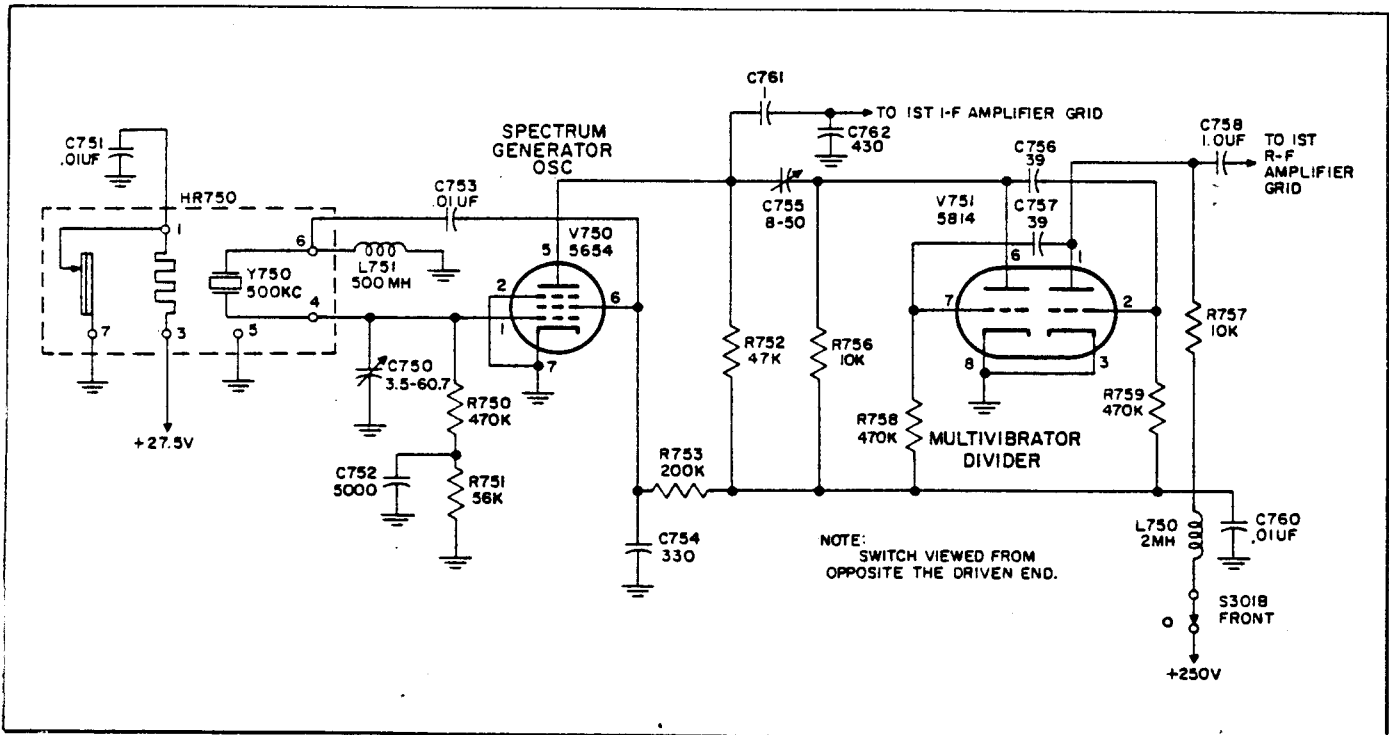

Figure 4-16. Spectrum Generator Oscillator, Simplified Schematic Diagram
**4-26. SPECTRUM GENERATOR OSCILLATOR.** (See figure 4-16.) The function of the spectrum generator oscillator is to provide a 500-kilocycle signal for use in frequency calibration of the receiver. A 5654 tube, V750, is employed in a modified, electron-coupled oscillator. Feedback is accomplished through capacitor C753. Capacitor C750 is nominally set at 32 micromicrofarads for the initial alignment, and may be varied later to set the oscillator frequency to exactly 500 kilocycles. Provision is made for grid voltage metering, accomplished by resistor R751, in series with the grid-loading resistor, R750. Capacitor C752 is the voltmeter bypass. Stability of the
**4-27. MULTIVIBRATOR DIVIDER.** (See figure 4-16.) Capacitor C755 couples the output of V750 to the multivibrator plate and grid. The 500-kilocycle drive is made slightly variable through capacitor C755. The multivibrator is a plate-coupled astable version, with the grids returned to the B+ supply to increase slightly the free-running frequency. The free-running frequency is basically determined by the time constants of capacitors C756 and C757 and resistors R759 and R758. For an explanation of the operation, assume that the right half of the tube is cut off. Under these circumstances the plate (pin 1) is at B+ voltage and the grid (pin 2) is highly negative as a result of capacitor C756 discharging through resistor R759; the plate (pin 6) is conducting heavily and the grid (pin 7) is positive. At this time the rate of discharge of capacitor C756 through resistor R756 starts to decrease, allowing the grid (pin 2) voltage to rise slowly. When this voltage passes cutoff in the positive direction, the right-hand triode fires, the plate (pin 1) current begins to rise lowering the plate voltage, and this lowering of plate voltage is transmitted effectively through capacitor C756, thus driving the grid (pin 7) in the negative direction. The plate (pin 6) voltage begins to rise as a result of the increased bias on the grid (pin 7), and this voltage rise is transmitted effectively through capacitor C757 to the grid (pin 2), driving it more in the positive direction and decreasing the plate voltage (pin 1) still more. At this time the plate (pin 1) and the grid (pin 7) are becoming more negative, while the plate (pin 6) and the grid (pin 2) are becoming more positive. This action will continue until the left-hand tube is beyond plate current cutoff. When cutoff is reached, the plate (pin 6) jumps to the B+ voltage and the plate (pin 1) conducts very heavily. The rate of discharge of capacitor C757 through resistor R758 now begins to decrease slowly, allowing the grid (pin 7) to rise in the positive direction, toward plate current cutoff. When cutoff is reached in this direction, the left-hand triode fires, the plate (pin 6) current rises dropping the plate voltage, and this dropping of plate voltage is transmitted effectively through capacitor C756 to the grid (pin 2), driving this grid in the negative direction. As the grid (pin 2) becomes more negative, the plate (pin 1) becomes more positive as a result of the increased bias. The plate (pin 1) will climb slowly to the B+ voltage, reached when its control grid is past cutoff, and the plate (pin 2) will decrease in voltage as a result of its grid becoming positive. The multivibrator now has gone through a complete cycle of operation. If allowed to operate independently, this cycle will be repeated over and over, the frequency depending upon the time constants previously mentioned. The free-running frequency of the multivibrator is slightly below 100 kilocycles, which allows for synchronization at exactly 100 kilocycles.